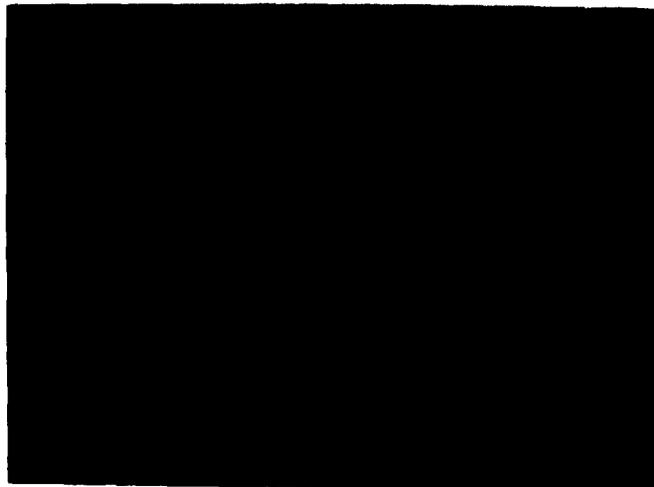

Figure 2-25. Installing instrument light M53 on telescope XM128 for night operation.
- d. Slide dovetail foot on lamp bracket assembly into dovetail slot provided on lower left side of telescope XM128 (fig. 2-25).